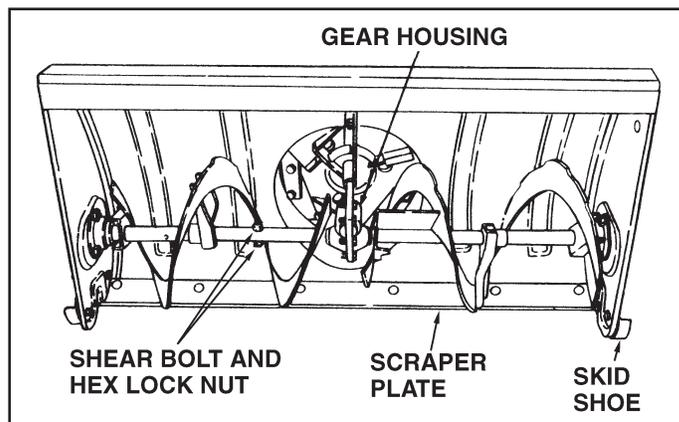

FIGURE 60
- If the augers will not turn, check to see if the shear bolts have sheared. See figure 60. Two replacement shear bolts and nylock nuts have been provided with the snow thrower. For future use order part number 42489 shear bolt and number 47810 nylock nut.